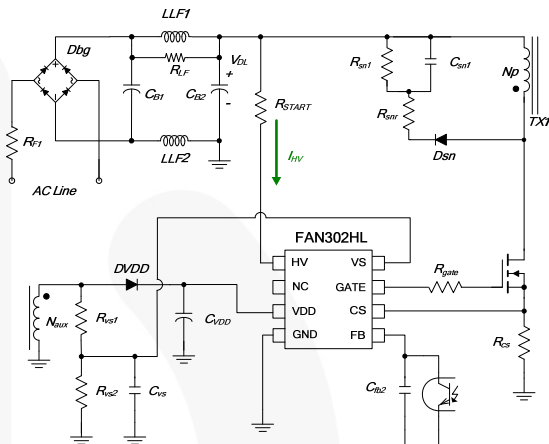

Figure 29. HV Startup Circuit
Figure 29 shows the high-voltage (HV) startup circuit for FAN302HL applications. The HV pin is connected to the line input or bulk capacitor through a resistor. During startup, the internal startup circuit is enabled and the line input supplies the current, I_{HV} , to charge the hold-up capacitor, C_{VDD} , through R_{START} . When the V_{DD} voltage reaches V_{DD-ON} , the internal HV startup circuit is disabled, blocking I_{HV} from flowing into the HV pin. Once the IC turns on, C_{VDD} is the only energy source to supply the IC consumption current before the PWM starts to switch. Therefore, C_{VDD} must be large enough to prevent V_{DD} from dropping to V_{DD-OFF} before the power can be delivered from the auxiliary winding.